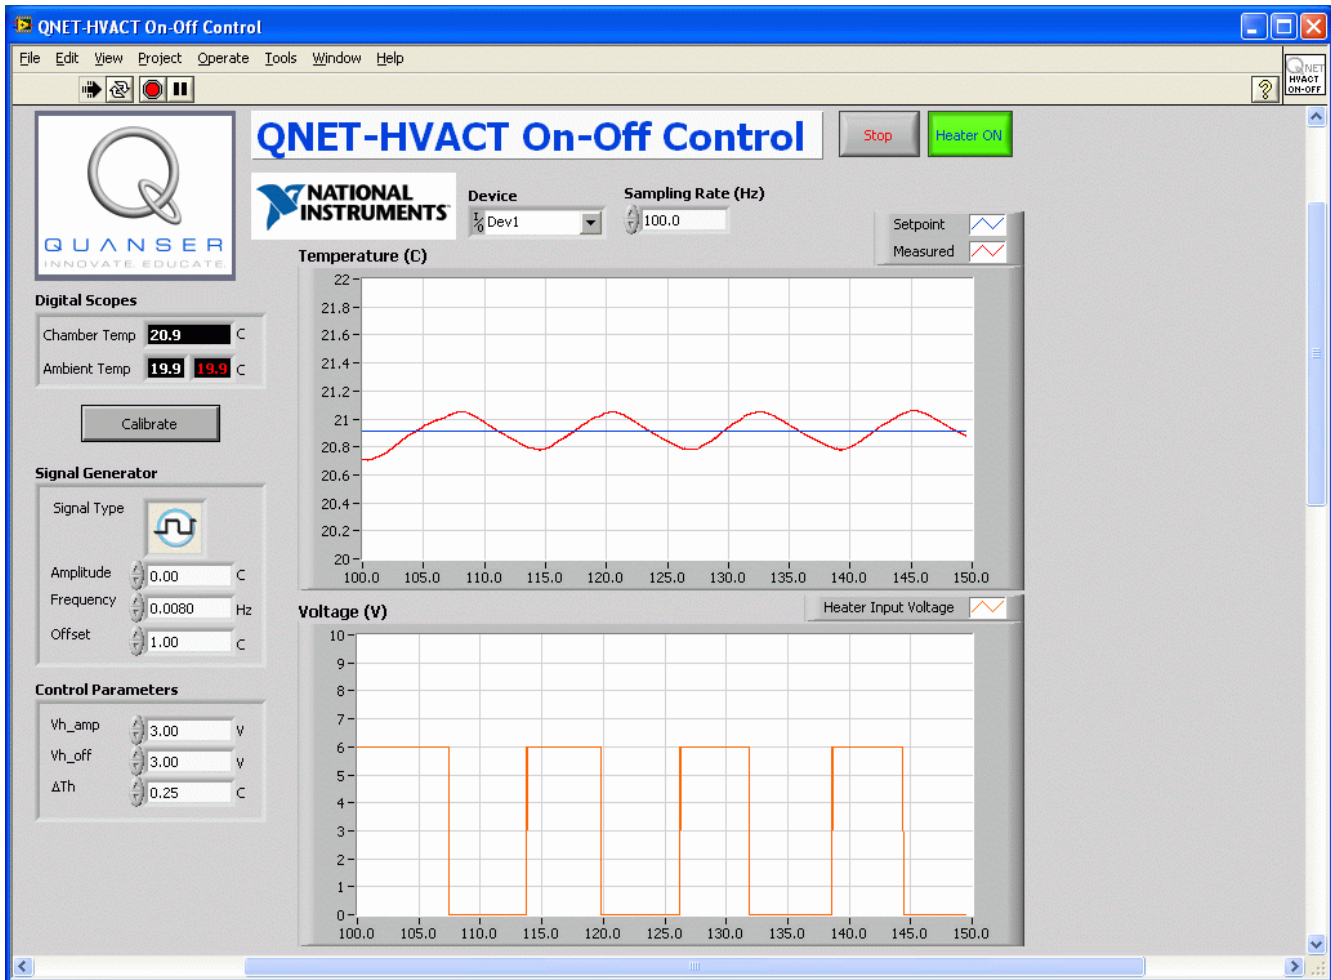

Figure 6: QNET-HVACT On-Off Control VI.
1. Ensure the QNET_HVACT_On_Off_Control.vi is running and has been calibrated as instructed in Section 4.1.1. When running, the VI should look similar to Figure 6.
3. Examine the actual temperature (red) and reference temperature (blue) responses in the *Temperature (C)* scope.
4. **Exercise 1:** Gradually vary the *Offset* in the *Signal Generator* between $0.5\text{ }^{\circ}\text{C}$ and $2\text{ }^{\circ}\text{C}$. How is the reference temperature, T_r , in the *Temperature (C)* scope is set? Attach a sample temperature response.